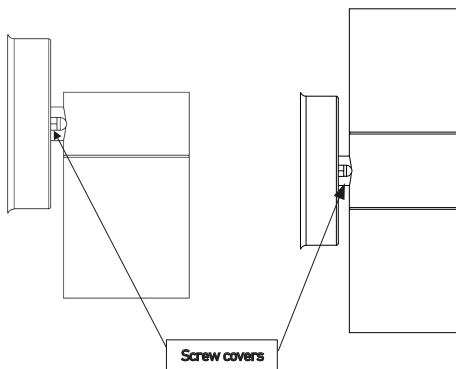

Fig. 1
- Remove the screw covers by unscrewing the screw covers securing the baseplate to the luminaire (see Fig. 1)